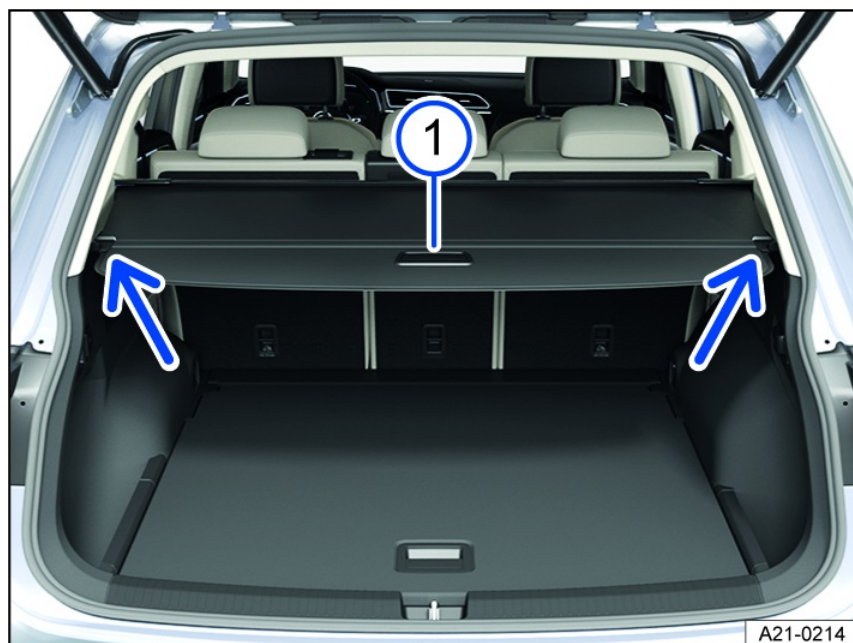

Fig. 159 In the luggage compartment: open the luggage compartment cover (general example).
1. Pull the luggage compartment cover out by the handle fig. 159 ① and pull it upward out of the side retainers (arrows).
1. Pull the luggage compartment cover back by the handle fig. 159 ① and attach it to the anchorage (arrow).